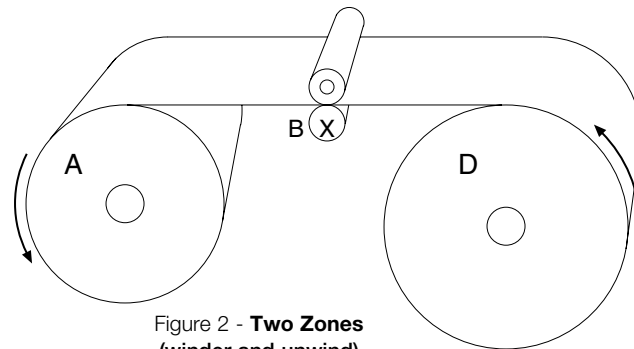

Figure 2 - Two Zones (winder and unwind)
II. More commonly, a machine will have driven nip rolls in the center, or processing section (see Fig. 2). A simple slitter/rewinder is an example. In this case, there are two separate tension zones to deal with and the tension levels may be different in each zone. Different tension levels are possible because the web is captured at the driven nip rolls, thus creating separate and distinct unwind and rewind zones. The driven nip rolls (B) will typically be powered by a motor drive that establishes machine line speed. Processing tension will be controlled by a brake system at the unwind (D), and a clutch or motor drive will control the winder tension (A). Again, the method of control will be dictated by the accuracy of tension control required in each zone. If process tension levels can vary by 10% or greater, a simple open loop brake control system may suffice. More accurate control would require a closed loop system, such as dancer or load cell feedback. Likewise, in the winder zone, open loop control may be sufficiently accurate, or closed loop or taper tension control may be required.